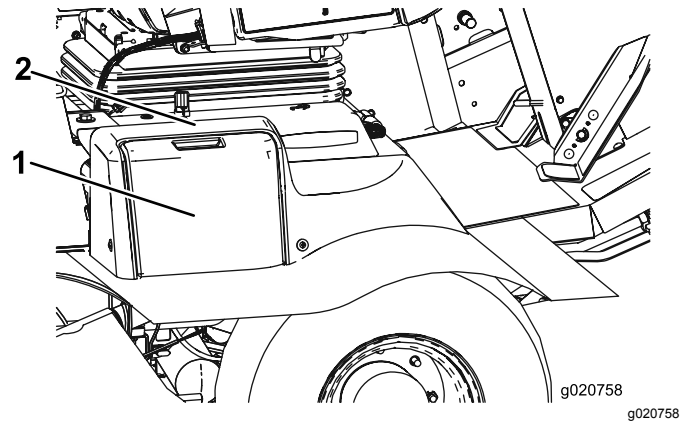

Figure 82
1. Open the battery cover on the side of the shroud (Figure 82).
Note: Press down on the flat surface above the battery cover to ease the removal of the cover (Figure 82).